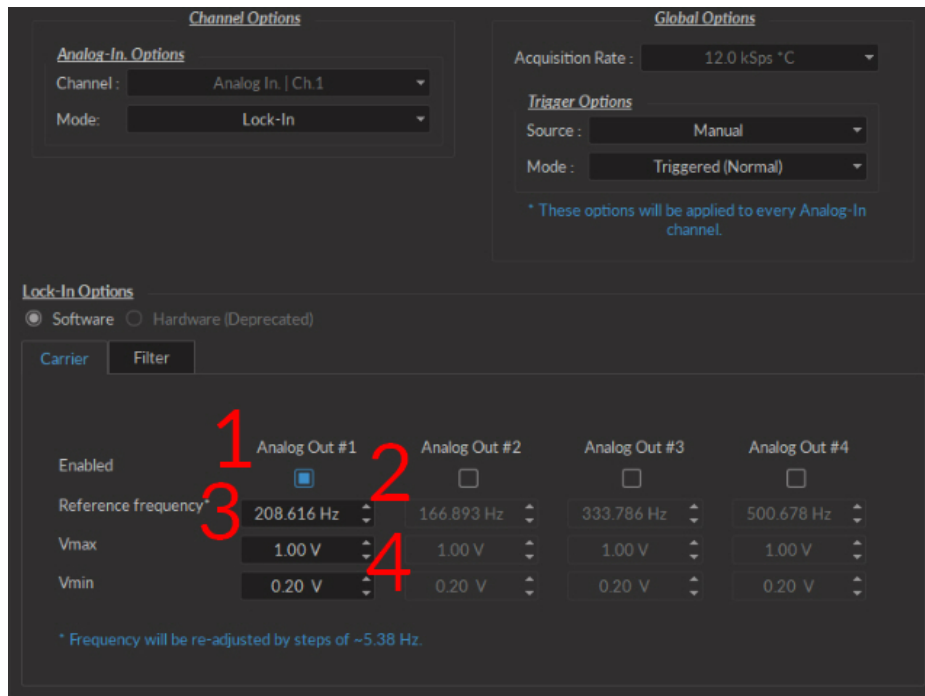

Figure 2.10: Channels configuration, Analog Input Lock-in Mode, Carrier Tab
The following section describes the usage of the **Lock-in** mode for **Analog Input** channels. Once the **Lock-in** channel mode is chosen, the **Lock-in options** box (Fig. 2.10) appears, containing the following parameters.
1. The **Channel List** (Fig. 2.10) indicates which channels are used to output a reference frequency. Multiple output channels can be selected for a single input channel. Any output channels already configured by a different input channel will be usable, but not configurable. The output configuration must be changed in the initial input channel.
3. The **Reference frequency** (Fig. 2.10) allows the choice of a reference frequency. The reference frequency should not be a multiple of a known noise frequency (e.g. 60 Hz), or a multiple of another reference frequency.
4. The **Vmax/Vmin** (Fig. 2.10) defines the voltage sent from the console to the device. The minimum possible difference is of 0.1 V for the **LEDD**. The **Vmin** value is 0.1 V for the **LEDD** and 0.2 V for the **LEDRV**.